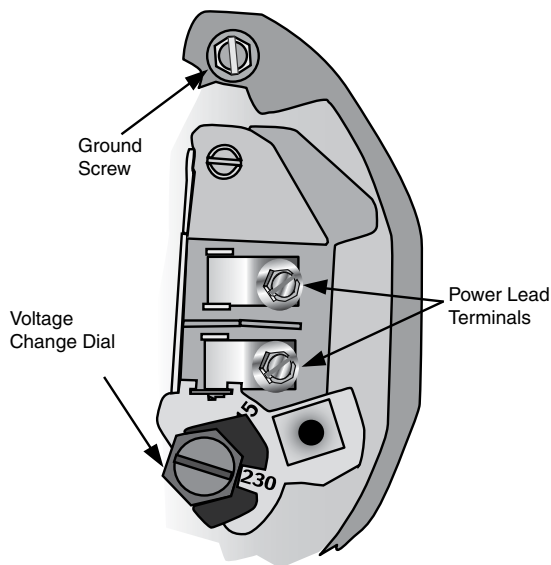

Figure 7: Voltage set to 230 volts, Dial Type
- Step 1. Connect the ground wire first as shown in Figure 7. The ground wire must be a solid copper wire at least as large as the power supply wires.
- Step 4. Connect the power supply wires to the pressure switch as shown in Figure 7.